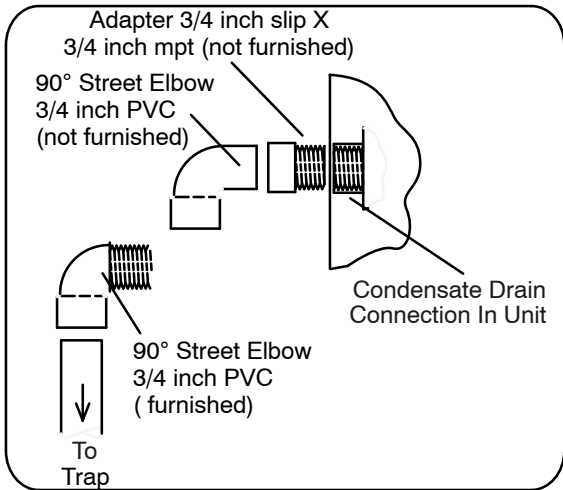

**FIGURE 52**
**Horizontal furnace (figure 52)** - In horizontal furnace applications the field provided vent must be a minimum 4" to a maximum 5" length above the condensate drain outlet connection. Any length above 5" may result in a flooded heat exchanger if the combined primary drain line were to become restricted.